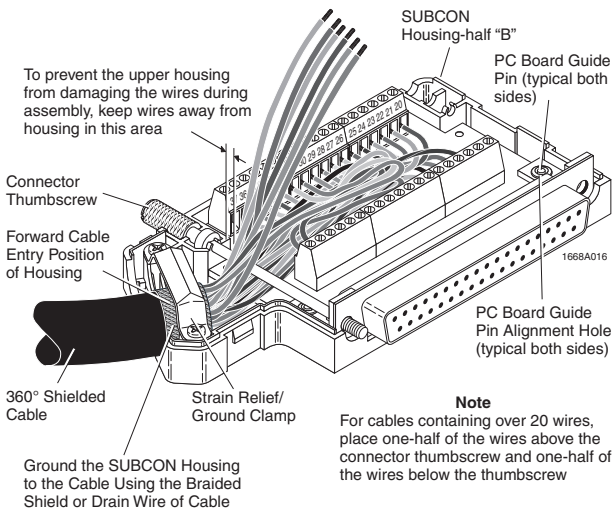

Figure 8. Assembling Connector for Left-side Cable Entry
1. Place the printed circuit board onto the PC board guide pins of housing-half "B" (see Figure 8).
3. Terminate conductors using the guidelines shown in Figure 8. For cable containing over 20 conductors, we also recommend installing one of the connector thumbscrews after about one-half of the conductors have been terminated.